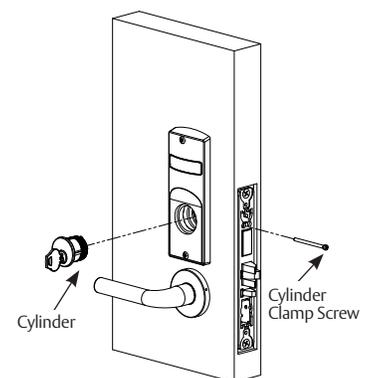

Figure 30
1. Thread cylinder into lock until flush with escutcheon surface. (Figure 30)